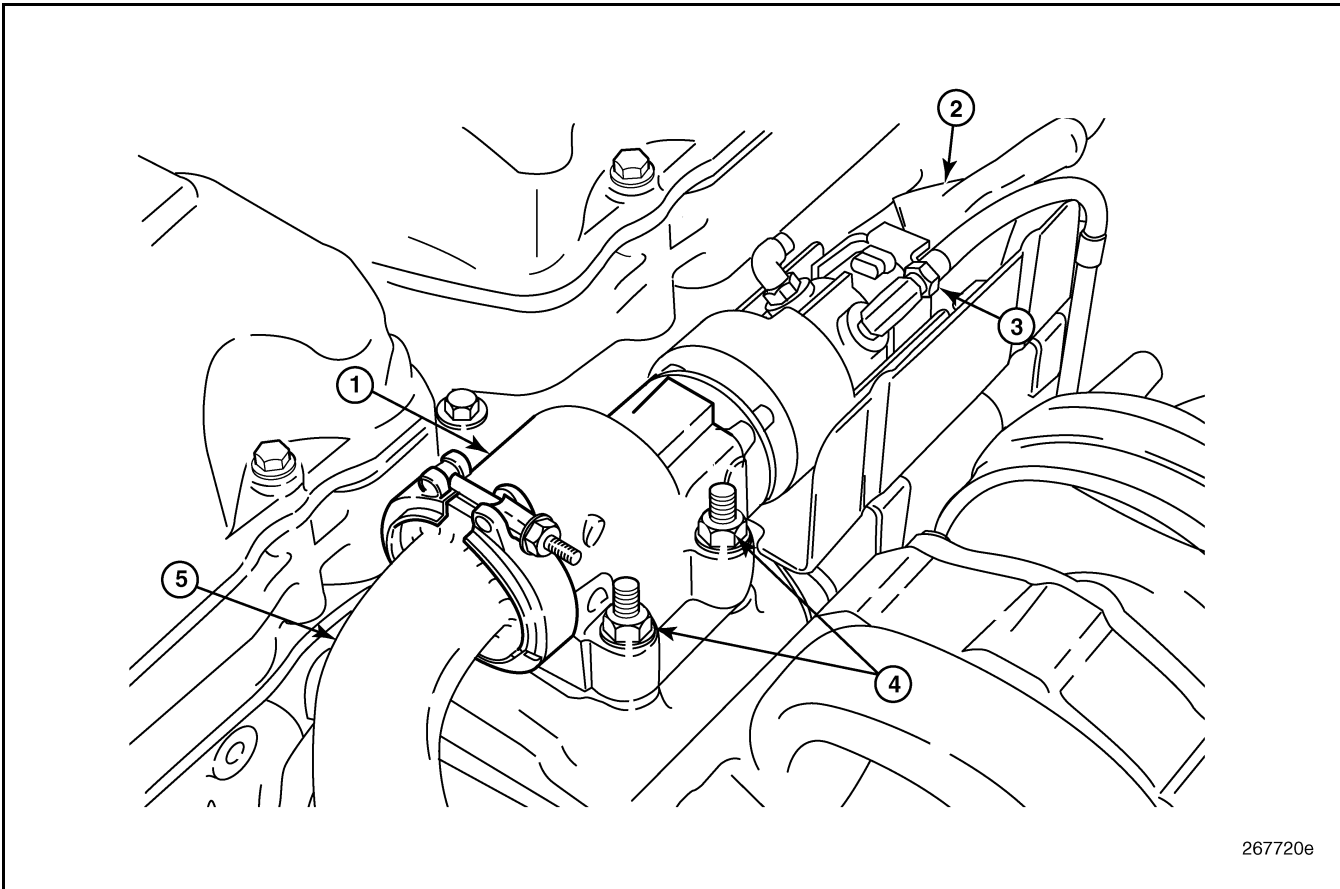

Figure 505 — EGR Valve, Installed
9. Connect the oil supply and oil return lines to the valve assembly (Figure 505).